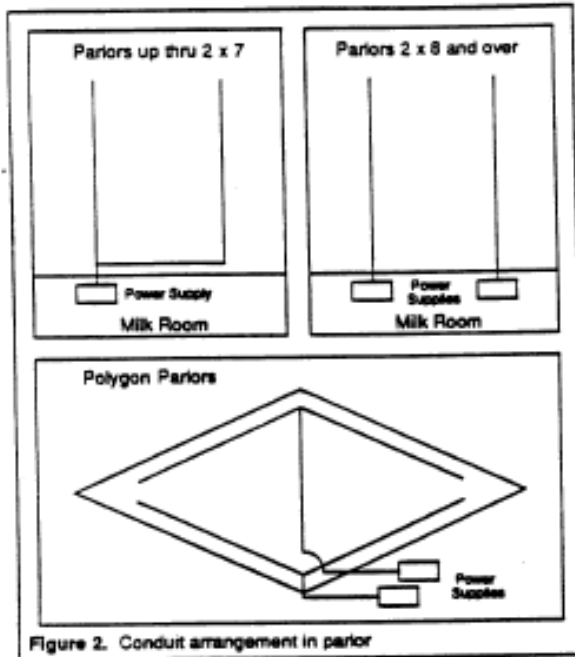

Figure 2. Conduit arrangement in parlor
1. Route 1/2" PVC conduit overhead from the power supply to the detachers, assembling the appropriate water-proof junction box at each detach location. The arrangement of the conduit will vary depending on the parlor setup (see Figure 2).